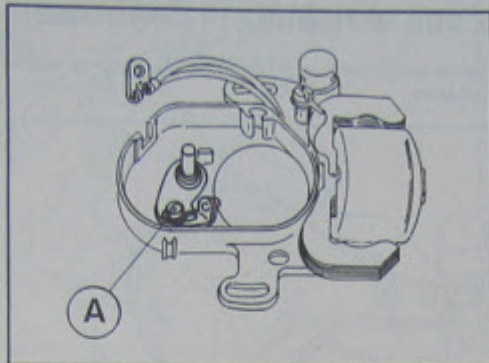

Fig. 16 Removing static point
- Detach static point by removing securing screw A (Fig. 16).